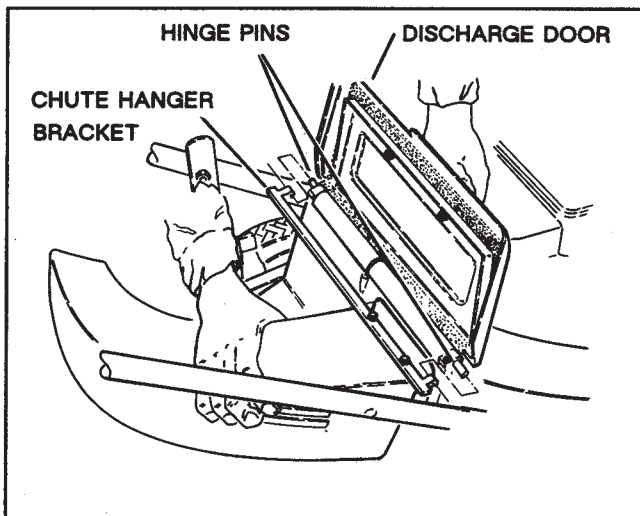

Figure 2
2. Raise discharge door and hook chute hanger bracket onto hinge pins (Fig.2). Allow chute to rest on mower housing over discharge opening.